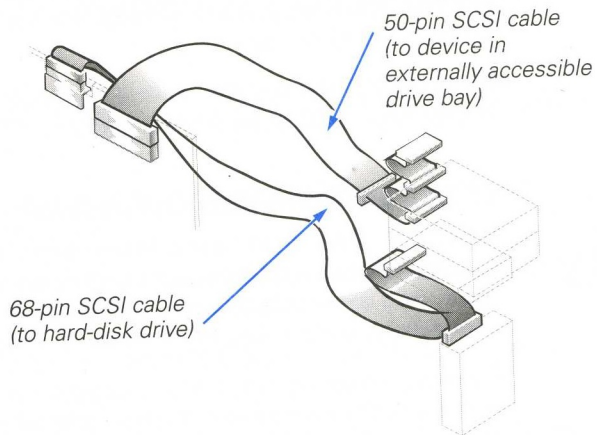

**Figure 3-14. Internal SCSI Cables**
- If you are installing an internal narrow SCSI device (such as a CD-ROM drive or tape drive), you have a 50-pin internal SCSI cable as shown in Figure 3-14. One end of this cable attaches to the SCSI host adapter card. The three connectors on the other end of the cable are used for attaching up to three narrow SCSI devices installed in the externally accessible drive bays.
- If you are installing an internal wide SCSI device (such as a wide SCSI hard-disk drive), you have a 68-pin internal SCSI cable as shown in Figure 3-14. One end of this cable attaches to the SCSI host adapter card and the two connectors on the other end of the cable are used for attaching up to two SCSI hard-disk drives.